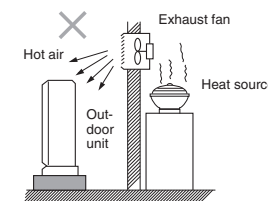

Fig. 2-1
- heat sources and exhaust fans, etc. (Fig. 2-1)